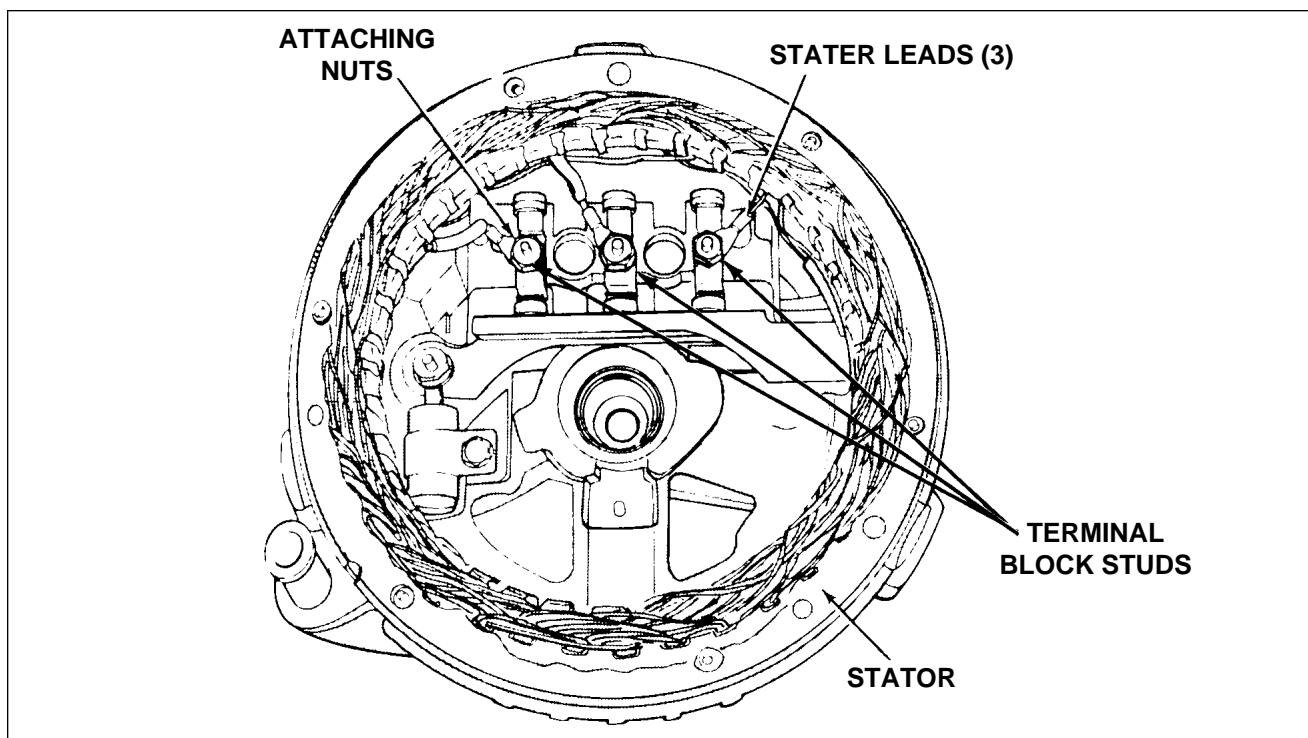

Figure 24-19. Chrysler Alternator Rectifier End Shield and Stator Assembly
- (1) Rotate rotor in drive end shield to feel for roughness in bearing.
- (2) Inspect grease retainer.
- (3) Inspect rectifier leads at connections for good solder joint and condition of insulation.
- (4) Verify rectifier/stator lead is pushed down into slots cast in end shield and cemented with MoPar cement No. 2299314. (Refer to Figure 24-19)
The two methods of testing rectifiers are the test lamp method and a method utilizing a special Rectifier Tester Tool no. C-3829. The Rectifier Tester Tool method is preferred. It gives quick, simple, and accurate test of alternator rectifiers without disconnecting stator phase leads (Figure 24-19). Both methods are described in this chapter.